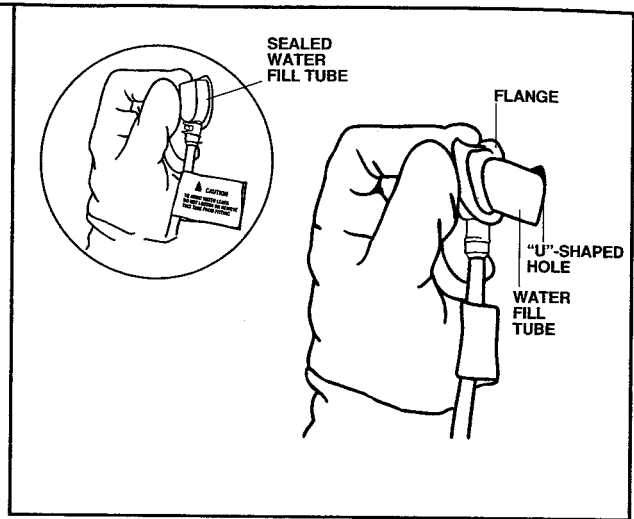

Figure 11
- b. Push gently on the water fill tube while twisting it slightly, until the flange is firmly seated inside the "U"-shaped hole on the exterior rear of the cabinet. See Figure 11.
- c. Check the exterior rear cabinet to be sure the water fill tube is completely sealed. See Figure 11.